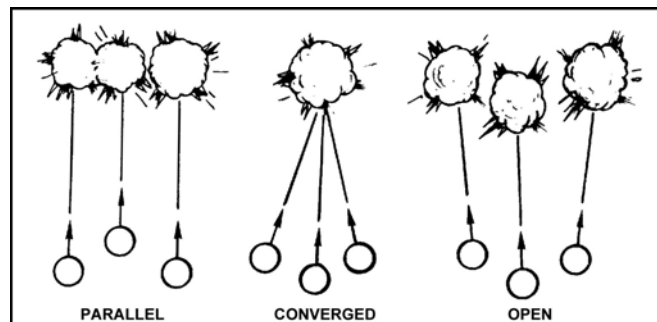

Figure 1. Types of Sheaths
- Definition and use. Individual weapon corrections for deflections, fuse settings, charges, and elevations are sometimes computed and applied to achieve a special pattern of bursts. The term sheaf denotes the lateral distribution of the bursts of two or more weapons fired together. The width of the sheaf is the lateral distance between the centers of the flank bursts. The front covered by any sheaf is the width of the sheaf plus the effective width of one burst. A sheaf may be in any one of the following forms (Figure 1):